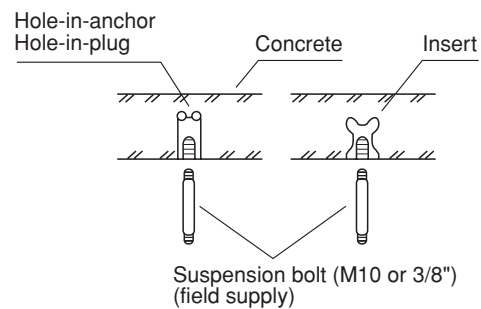
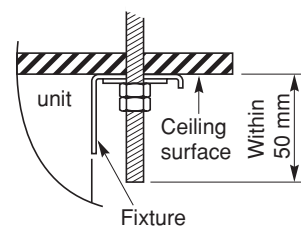

Fig. 3-38
Fig. 3-40
- (2) Drill holes at the 4 points indicated on the full-scale diagram.
- (3) Depending on the ceiling type:
- a) Insert suspension bolts as shown in Fig. 3-38.
- (4) Screw in the suspension bolts, allowing them to protrude from the ceiling as shown in Figs. 3-38 and 3-39. The distance of each exposed bolt must be of equal length within 50 mm. (Fig. 3-40)